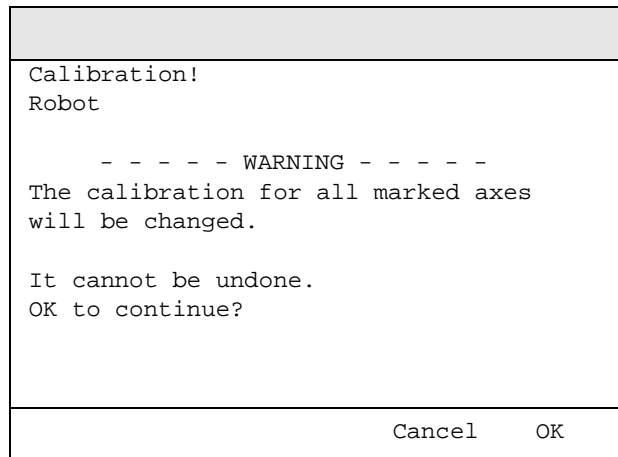

Figure 9 The dialog box used to start the calibration.
9. Confirm your choice by pressing **OK**. The window shown in Figure 9 appears.